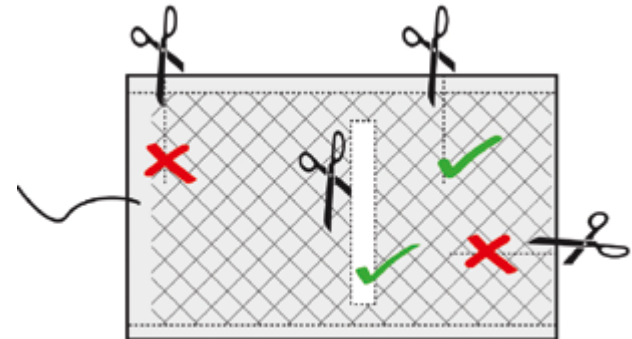

Fig. 1
09. Never change width by cutting the mats long ways, cut off only as shown. (Page 17; Fig. 1)